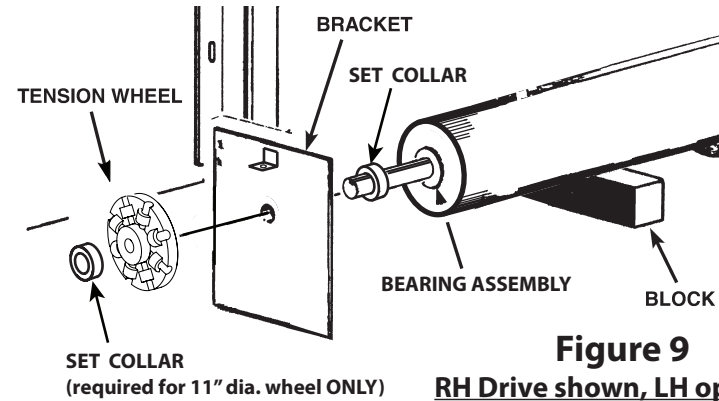

Figure 9
- Set barrel assembly on blocks or sawhorses so headplate brackets clear the floor. See Figures 9 and 10.
- Secure tension wheel to tension shaft, as shown in Figure 9.
- If Tension Wheel is 11" in diameter or larger, slide set collar next to Tension Wheel and secure to tension shaft, as shown in Figure 9.